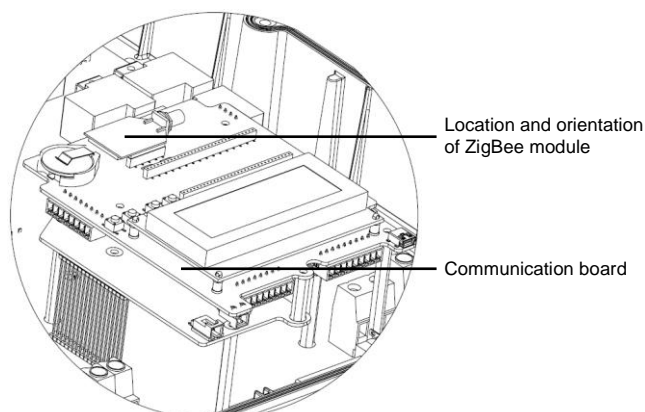

Figure 1: ZigBee Module Location
- 2** Open each device cover and insert the appropriate ZigBee module in its place on the communication board, as shown in Figure 1.
Make sure to plug in the ZigBee module in the correct orientation as illustrated in Figure 1. There is also a marking on the communication board that shows the correct orientation. Make sure that all the ZigBee module pins are inserted into the communication board socket.